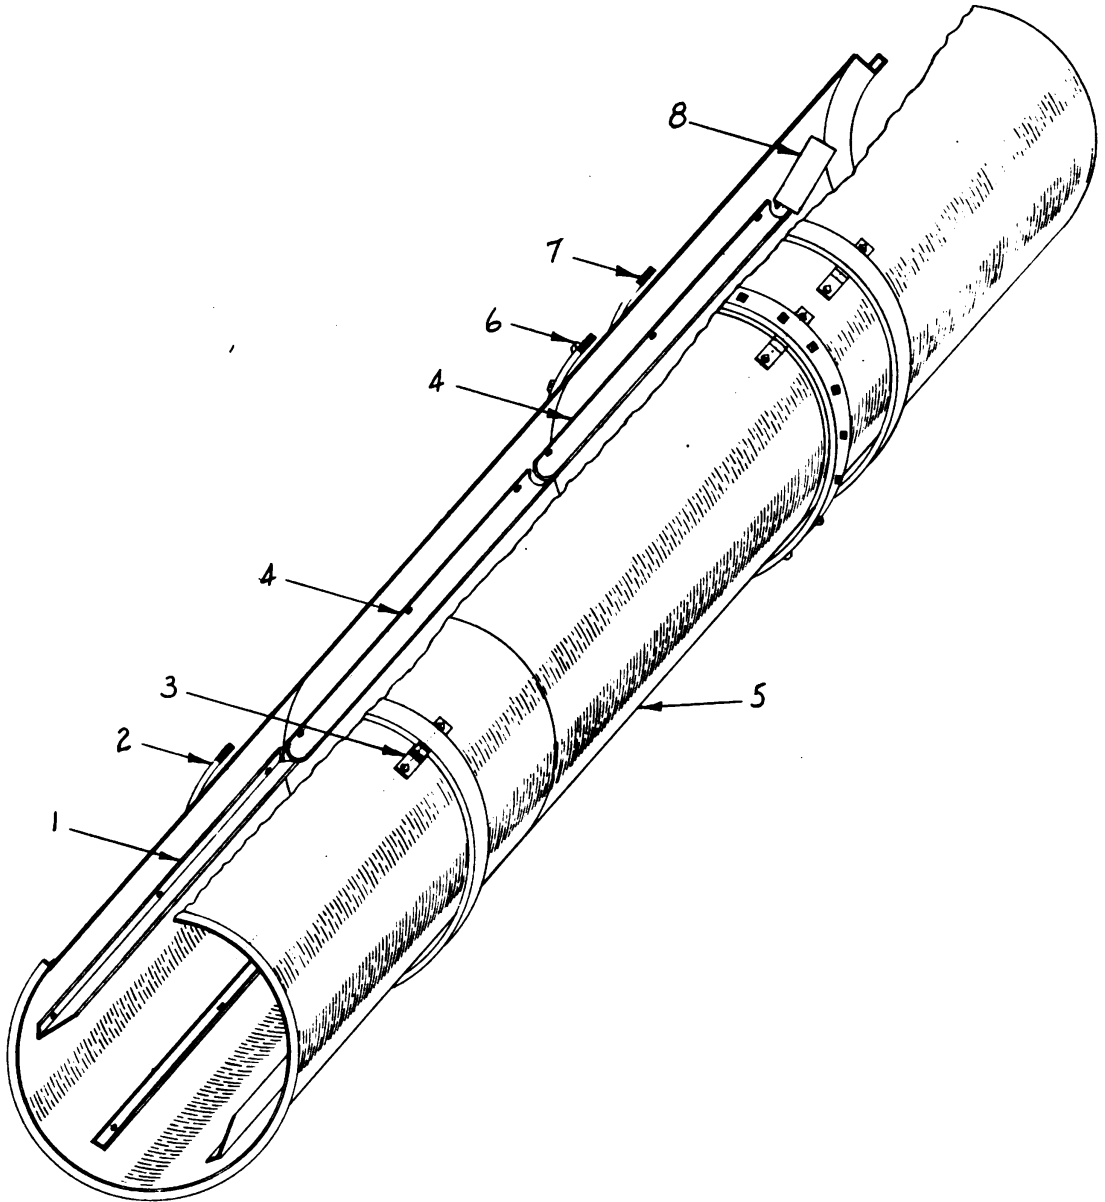

FIG. 11 - DRYER DRUM ASSEMBLY AND TRUNNION TIRES.
The dryer drums consist of two large rotating cylinders, mounted in parallel, through which the aggregate passes while being dried, Fig. 11. The drums are 4'6" in diameter and 20' long.
Keep all bolts securing the drum tires (2 & 7) Fig. 11, and drum sprocket (6) tight at all times. A loose bolt may shear off and cause the tires or sprockets to become loose on the drum.
Each drum is supported by two steel tires (2 & 7) Fig. 11, bolted to the outer circumference of the drum. Each tire revolves on and is supported by two trunnion rollers (9).